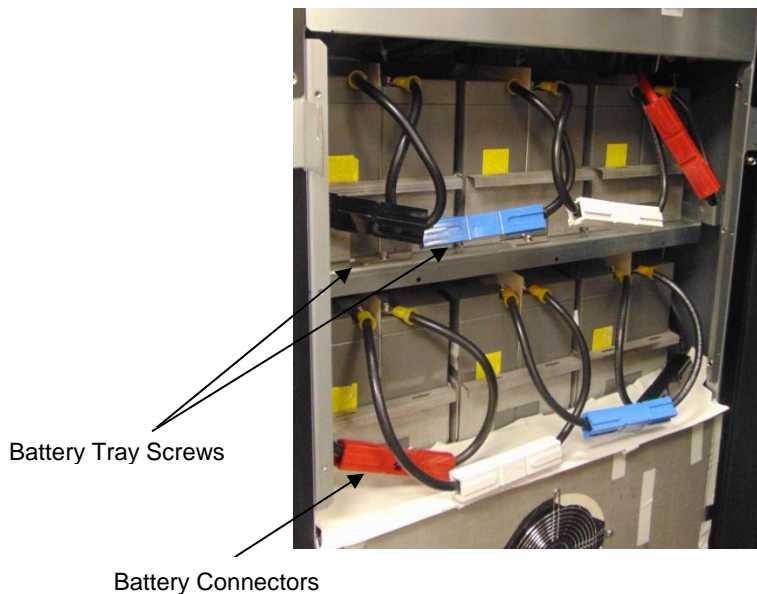

Figure 20 - UPS Internal Battery trays
3. Locate the battery connectors between the battery trays as shown in **Figure 20**.
5. The batteries are mounted into trays that bolt down to the chassis as shown in **Figure 20**. Remove all of these bolts.